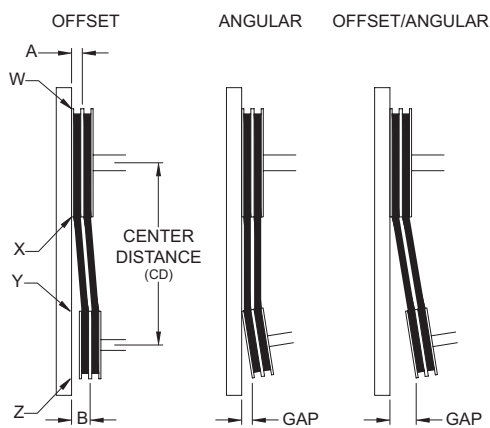

Figure 2
4. Ensure pulleys are properly aligned. Refer to *Figure 2*.
*Figure 2* indicates where to measure the allowable gap for the drive alignment tolerance. All contact points (indicated by WXYZ) are to have a gap less than the tolerance